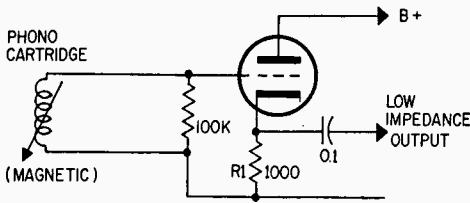

Fig. 11. Low-impedance output eliminates matching transformer and its frequency response limitations.
**Cathode Follower.** A cathode follower amplifier stage can be used to reduce impedance. In Fig. 11, a very small signal is fed from a magnetic pickup to the grid of the tube which is shunted by a 100,000-ohm